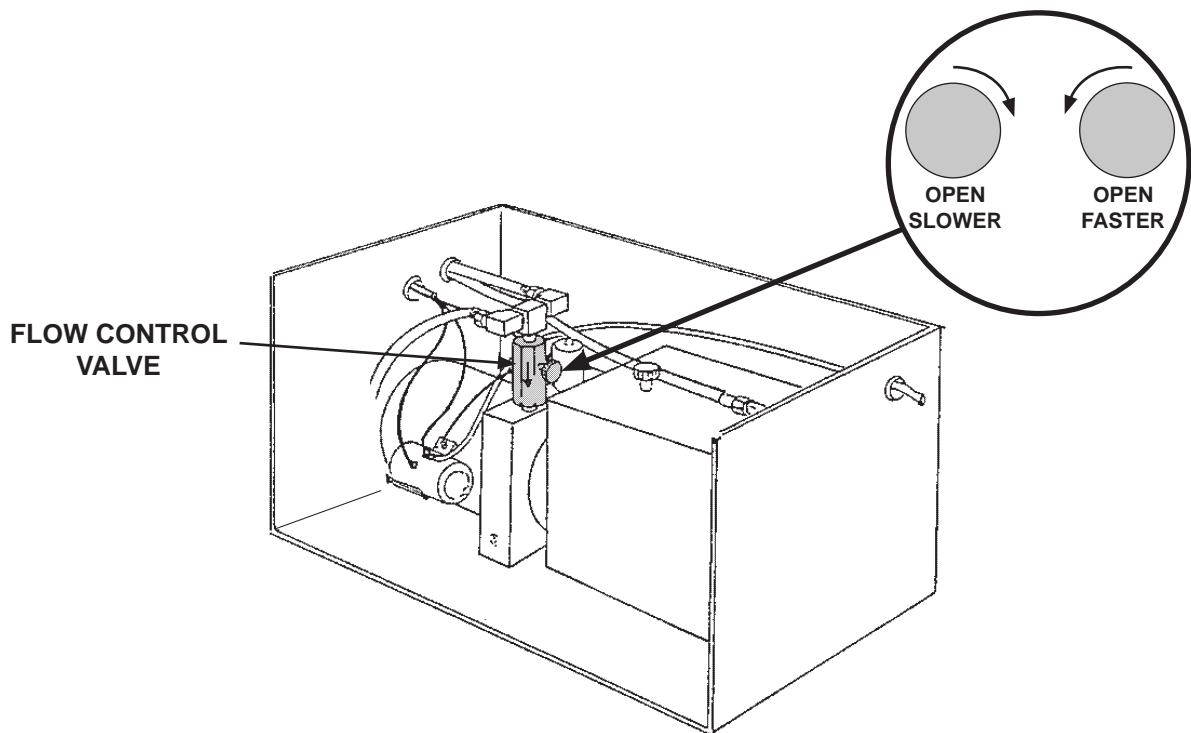

**FIG. 44-2**
5. If the unit does not maintain the pressure reading, it may be necessary to remove and inspect the relief valve components (**FIG. 44-2**). Check for nicks or cuts on the spring (**Item 4**) and ball (**Item 5**). Replace any damaged parts before reassembling the unit.